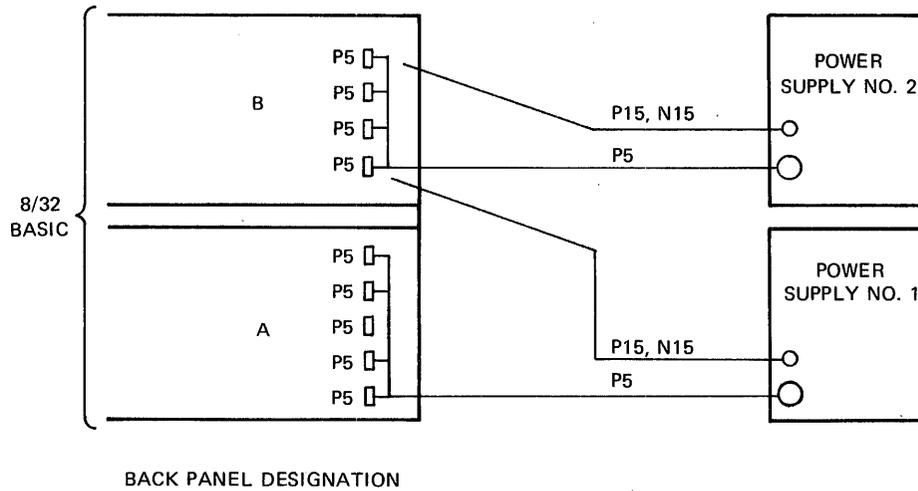

Figure 11. Basic 8/32 with 128 KB Memory Power Distribution
4.3.7 Configuration. In a Model 8/32 System, the minimum system configuration consists of one twin chassis and two standard INTERDATA 34-024 Power Supplies (Product Number M49-026). Figure 11 shows the power distribution of the basic system.
- Basic 8/32 Processor with 128KB Memory (Figure 11).
For different memory expansions, it is possible to have from one to three 356 mm (14") twin chassis in the Model 8/32 System (located as shown in Figure 3). Figures 11 through 15 show the three possible configurations.